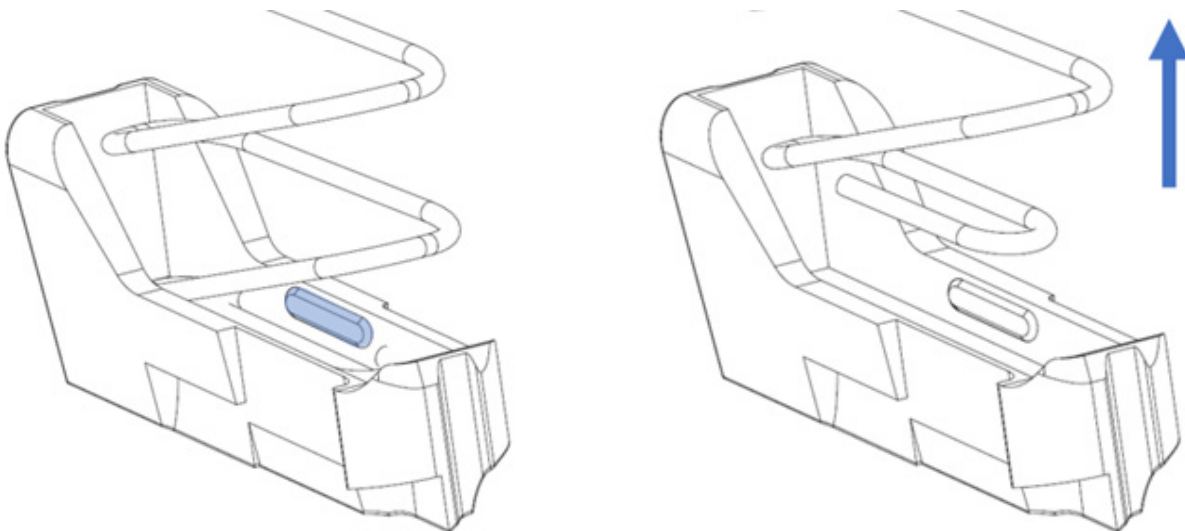

Figure 66: a) Follower's clips position. b) Spring removal direction.
6. Remove the original follower from the magazine spring, releasing the spring from the follower's side clips (Figure 66).